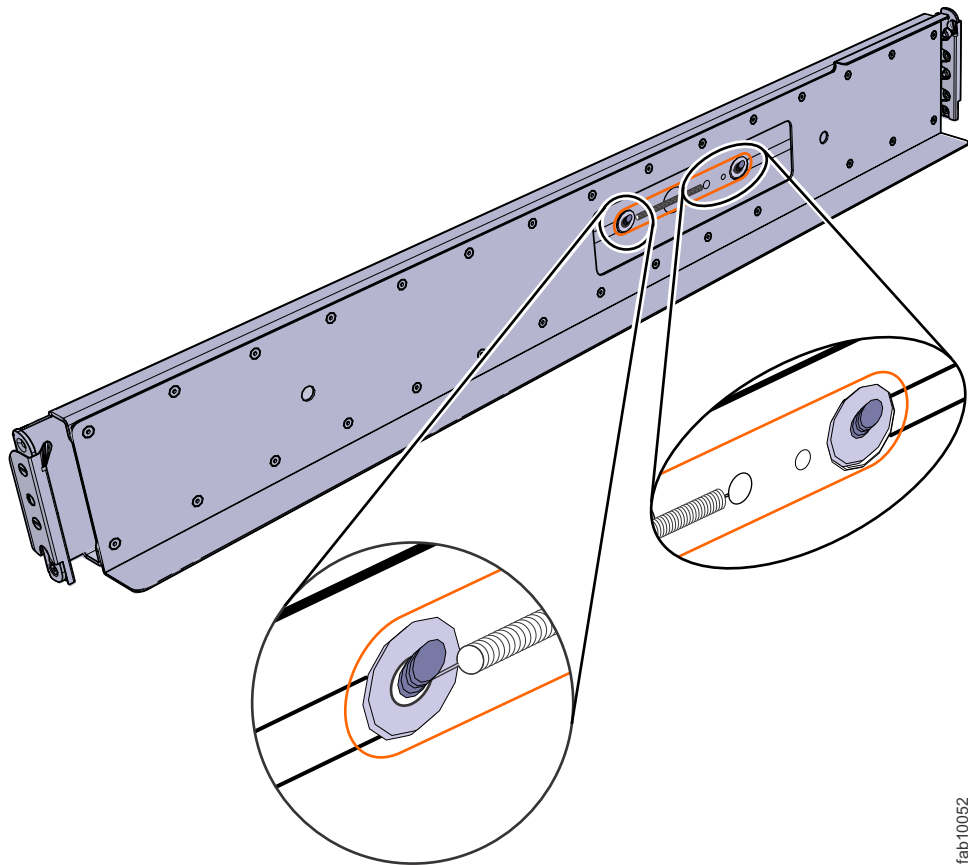

Figure 33. Installing the rail spring
- b. Push one looped end of a spring over one stud on the inside of the rail. (See Figure 33.)